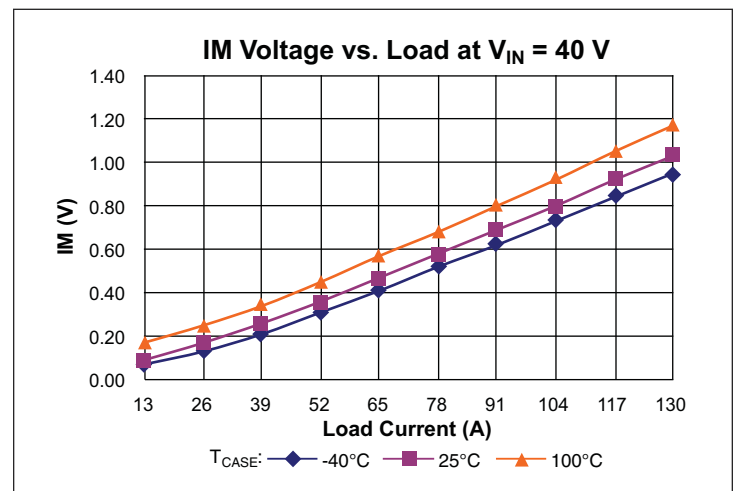

Figure 14 — IM voltage vs. load
Current Monitor (IM) pin provides a voltage proportional to the output current of the VTM module. The nominal voltage will vary between 0.15 V and 0.99 V over the output current range of the VTM module (See Figures 14–16). The accuracy of the IM pin will be within 25% under all line and temperature conditions between 50% and 100% load.